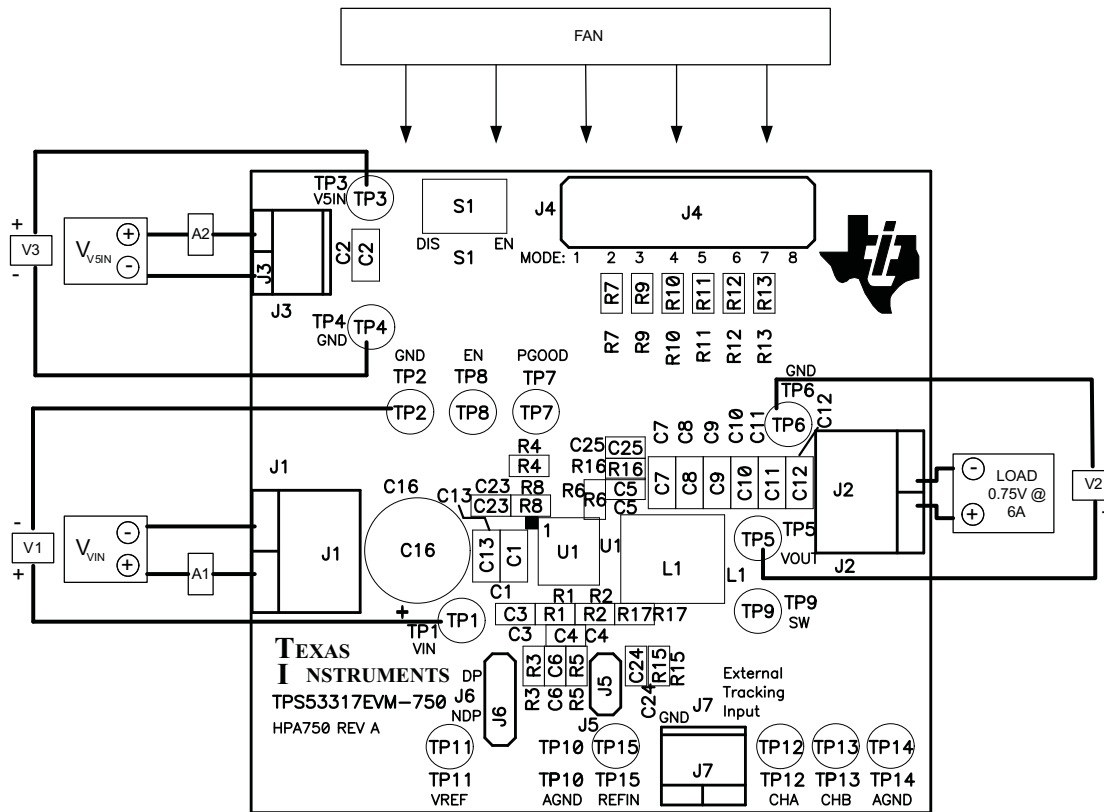

Figure 3. TPS53317EVM-750 Recommended Test Set Up
- **VIN:** The input voltage source VIN should be a 0-V to 5-V variable DC source capable of supplying 10 ADC. Connect VIN to J1 as shown in Figure 3.
- **V5IN:** The V5IN voltage source should be a 5-V DC source capable of supplying 1 ADC. Connect V5IN to J3 as shown in Figure 3.
Figure 3 is the recommended test set up to evaluate the TPS53317EVM-750. Working at an ESD workstation, make sure that any wrist straps, bootstraps or mats are connected referencing the user to earth ground before power is applied to the EVM.
1. Prior to connecting the DC input source VIN, it is advisable to limit the source current from VIN to 10 A maximum. Make sure VIN is initially set to 0 V and connected to J1 as shown in Figure 3.
4. Prior to connecting the 5-V DC source V5IN, it is advisable to limit the source current from V5IN to 1 A maximum. Make sure V5IN is initially set to 0 V and connected to J3 as shown in Figure 3.
**Other Connections:** Place a Fan as shown in Figure 3 and turn on, making sure air is flowing across the EVM.
1. Set up EVM as described in Figure 3.